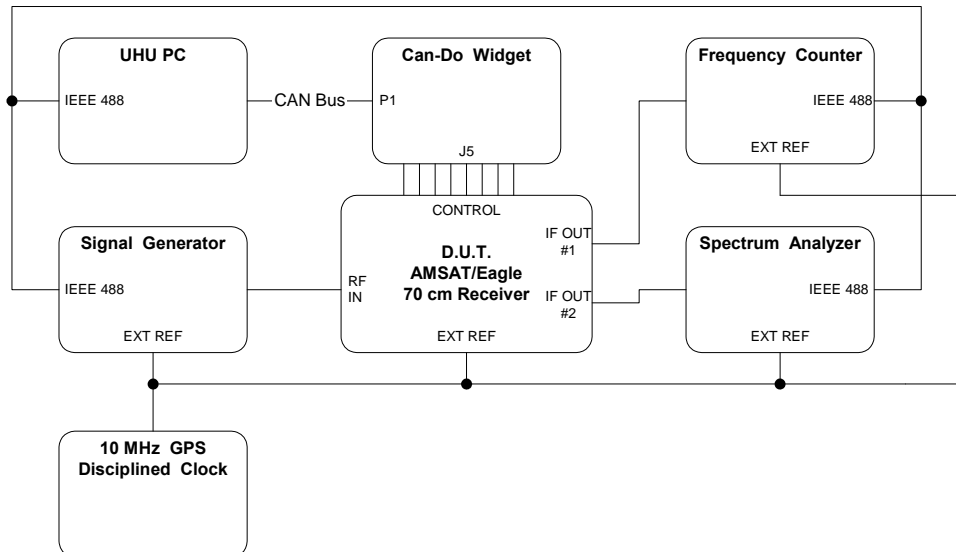
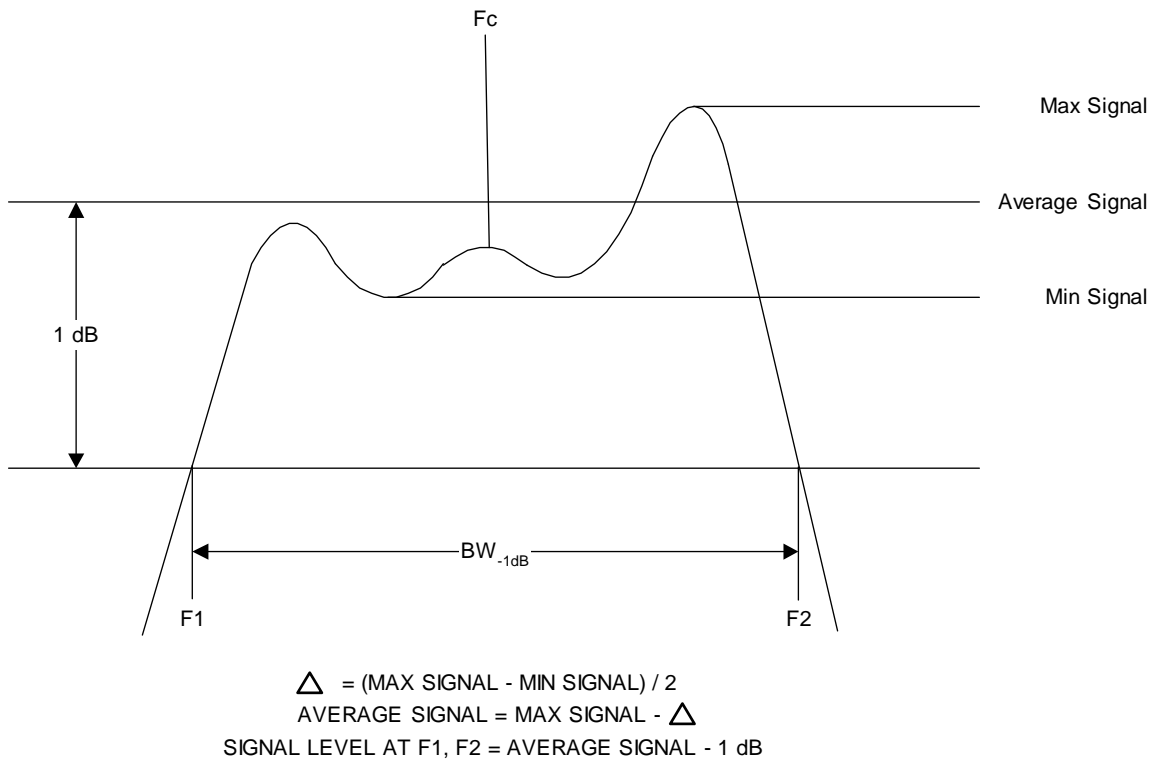

Figure 11-1. Default Test Configuration
Figure 14-1. I.F. Bandwidth Definition (Ripple Exaggerated)
Refer to Figure 11-1 for test configuration.
This test characterizes the receiver's 1 dB compression point. This test will determine when the receiver begins to deviate radically from linear amplitude response¹. It is performed at the center frequency of 436.5 MHz. Although P_{-1db} is not specified, the maximum R.F. input level is specified at +12 dBm. **DO NOT EXCEED +12 dBm.** Refer to Figure 11-1. Default Test Configuration for test configuration.
Refer to Figure 11-1 and Figure 14-1 for test configuration and bandwidth definition.
- 14.8 Use Figure 14-1 as a guide and find the highest peak by pressing MARKER PEAK SEARCH on the analyzer. Then press Δ and position the cursor to the minimum amplitude point within the passband and note the marker delta value. Press Δ again and move the cursor up along the passband curve to an amplitude half the value just noted. The cursor should now be positioned at the average signal level as defined in Figure 14-1.
Refer to Figure 11-1 for the test configuration.